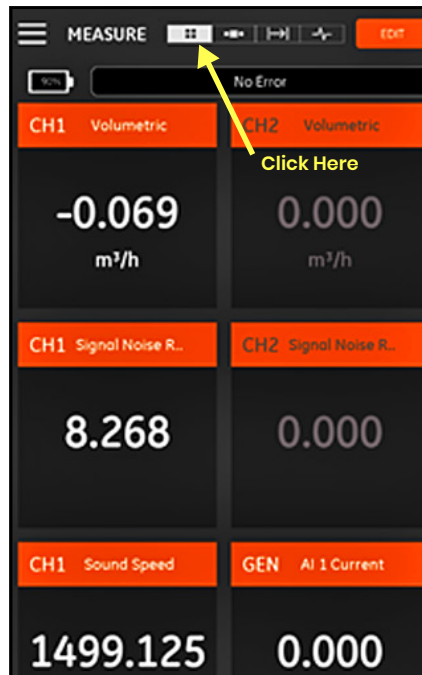

Figure 106: Multiple Measurement Screen
In *Figure 106* below, note that CH1 has been turned On and CH2 has been turned Off in the PROGRAM menu. Also, no AI source is connected to the General channel, because the value is zero.
icon at the top of the screen (see *Figure 106 on page 78*). Note the following:
- An Error Status box is located just above the measurement display section of the screen. If there are no system errors, No Error is displayed (see *Figure 106 on page 78*). However, if a system error does occur, the error information is displayed in this location with a flashing red background.